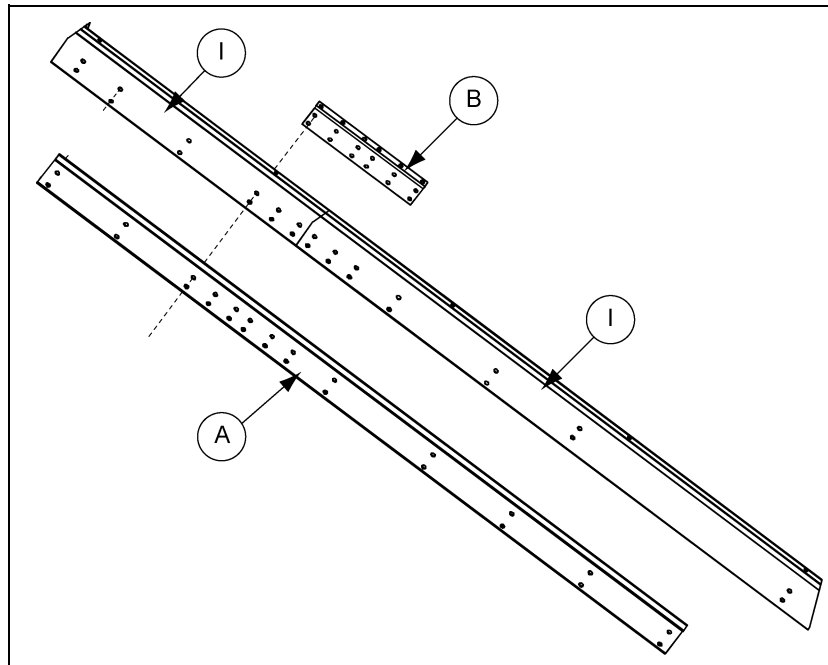

Figure 10P (For 48' Diameter Bin)
1. All 48' (14.63 m) packages shall span three (3) roof panels as shown in Figure 10P.
3. The package includes bracing Z-channels for the roof rafters, hanging angle and cable support channel (F).
7. Install the Z reinforcement angle (A) to the outside and the splice plate to the inside of the rafters. Use 3/8" x 1" bolts and 3/8" nuts for all connections.